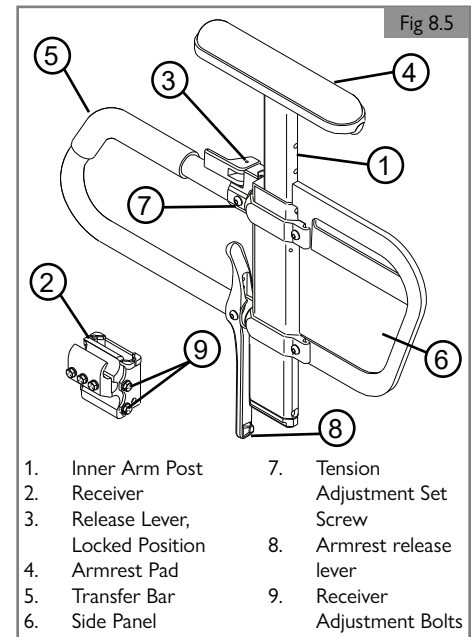

Fig 8.5
8.5 Single post height-adjustable armrest (Option) (Fig 8.5)